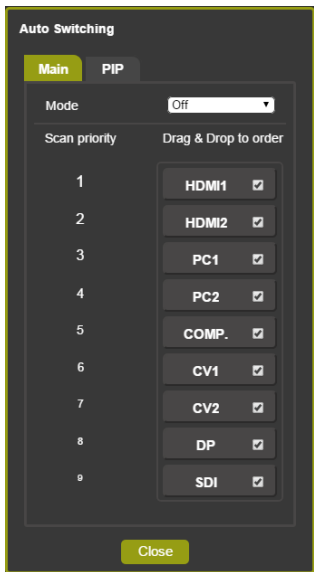

Figure 48: The Routing & Scaling Page – Auto Switching Window (Main Tab)
Click the Auto Switching button to open the Auto Switching window (see Figure 48). The Auto Switching window lets you set the Main and PiP scanning mode separately to:
When Scan mode is activated, the system scans the inputs from the highest to the lowest priority in search of a valid input signal for each the Main and PiP windows. The priority is ordered from the lowest input number (9) to the highest (1). For example, if PC 1 and HDMI 2 have a valid signal and auto switching is enabled, the **VP-771** will scan through the inputs and select the HDMI 2 which is higher in the priority list (see Figure 48). Once the signal is no longer valid on HDMI 2, the **VP-771** will scan for the next highest-priority valid signal.